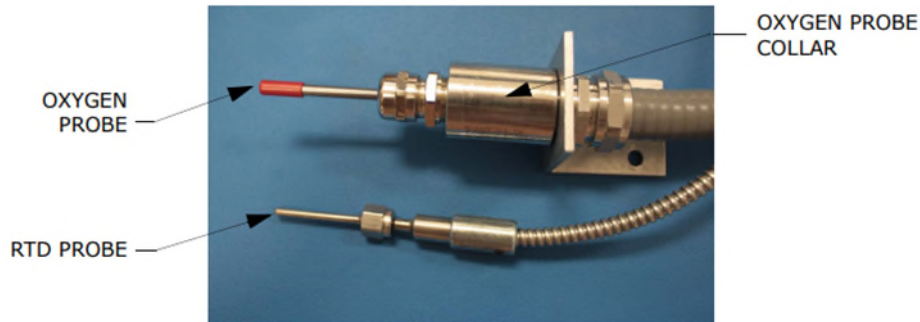

Figure 6. Oxygen and RTD probes
1. Connect the oxygen sensor from the OXY5500 to the remote panel. Refer to Connecting the oxygen sensor to the remote panel → . Refer to Figure 6 for a view of the oxygen probe.
2. Connect the temperature sensor (RTD) from the OXY5500 to the remote panel. Refer to Connecting the RTD probe to the remote panel → . Refer to Figure 6 for a view of the RTD probe.
1. Remove the protective red cap from the probe tip. Refer to Figure 6.